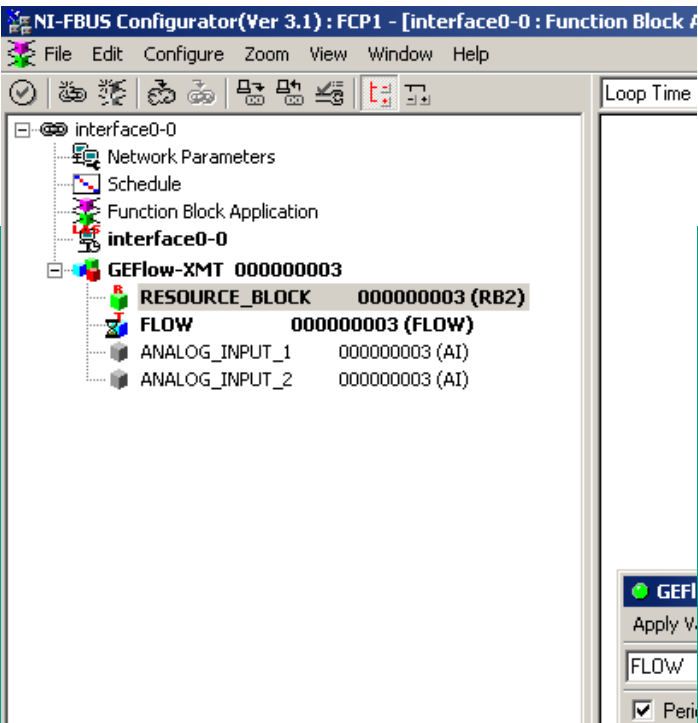

Figure 40: Configuration utility setup example
The following is an example setup using national Instruments configuration utility v3.1. figure 40 shows the configuration utility with a flowmeter on the network (Panametrics Flow-XMT).
1. Double click on the AI block for which you wish to set the units (ANALOG_INPUT_1 or ANALOG_INPUT_2 in the tree under GEFlow-XMT; see figure 40).
1. Double click on the FLOW transducer block (in the tree under GEFlow-XMT; see figure 40).